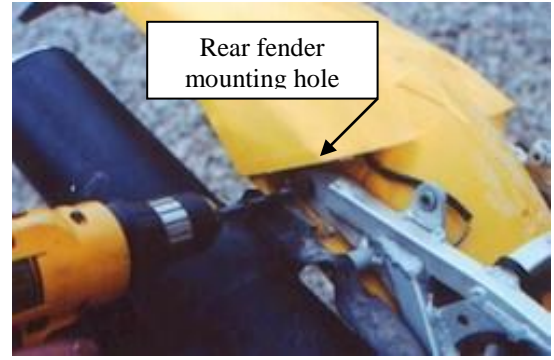

FIGURE 2
3. Drill the two rear fender mounting holes, in the sub frame, to 21/64 diameter. FIGURE 2